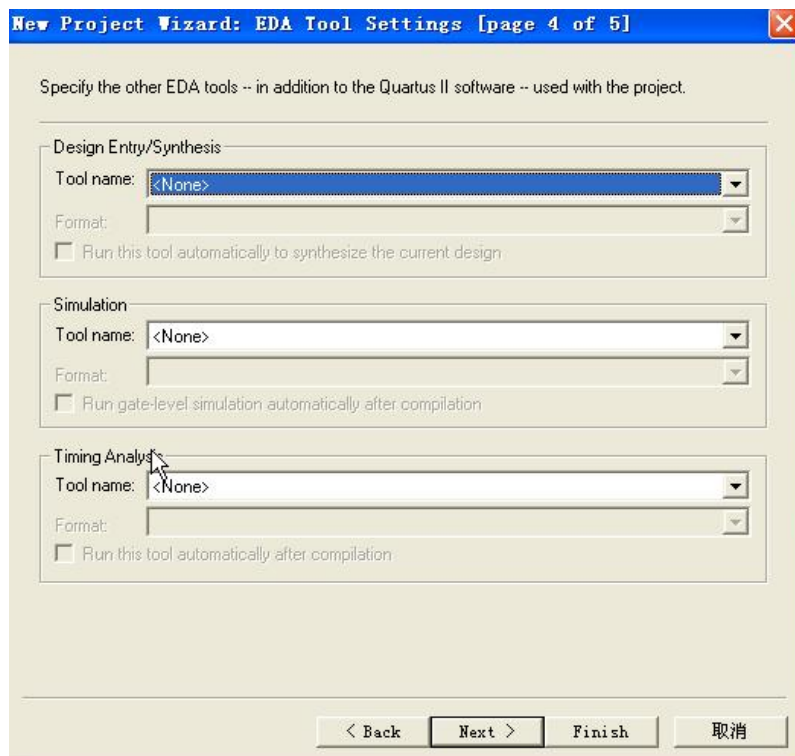

Figure 9. Other EDA tools can be specified.
4. We have to specify the type of device in which the designed circuit will be implemented. Choose Cyclone IV as the target device family. We can let Quartus II software select a specific device in the family, or we can choose the device explicitly. We will take the latter approach. From the list of available devices, choose the device called EP4CE115F29C7 which is the FPGA used on Altera's DE2-115 board. Press **Next**, which opens the window in Figure 9.